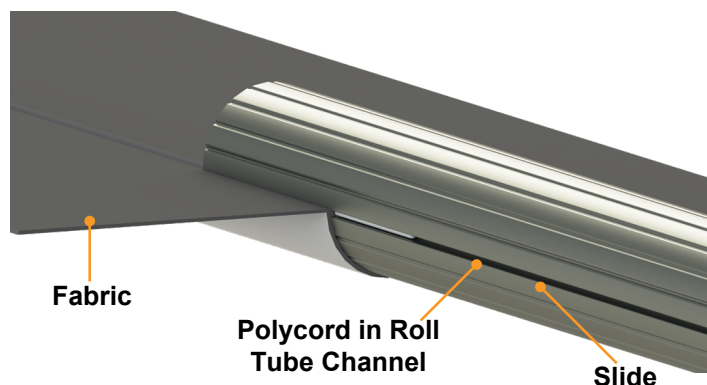

Fig.3
2. On a clean, level surface free of any debris that could scratch or damage the roll tube, gently slide the roll tube onto the polycord of the fabric, making sure that the non-printed side is touching the roll tube, (Fig.3).